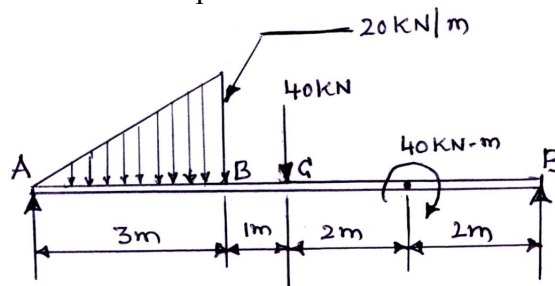

Fig.Q.5(b)
- b. Draw shear force and bending moment diagrams for the simply supported beam shown in Fig.Q.5(b). Indicating values at salient point. (14 Marks)